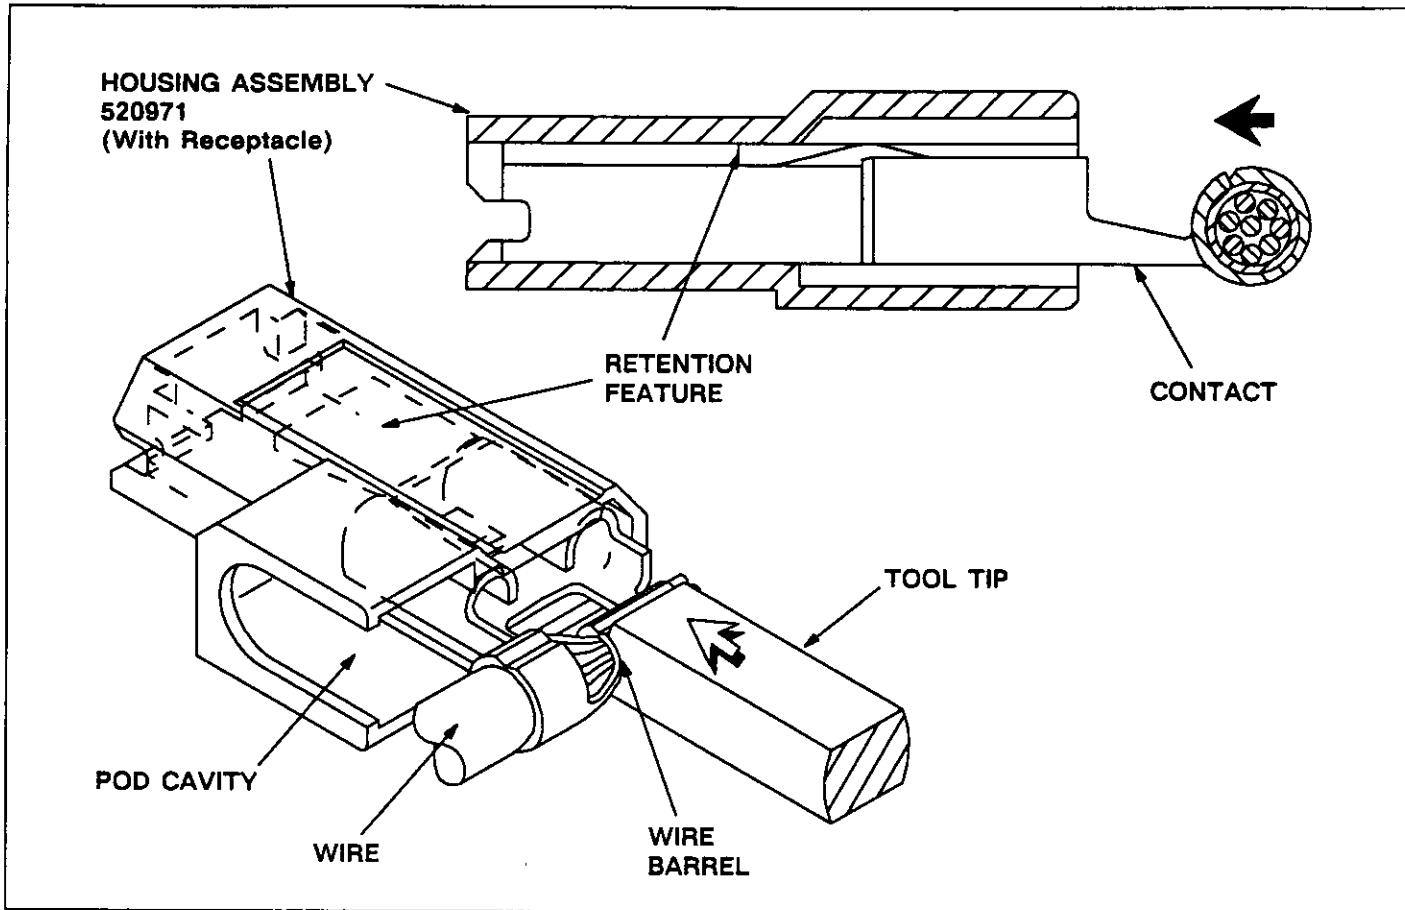

Fig. 2
3. INSERTION PROCEDURE (See Figure 2)